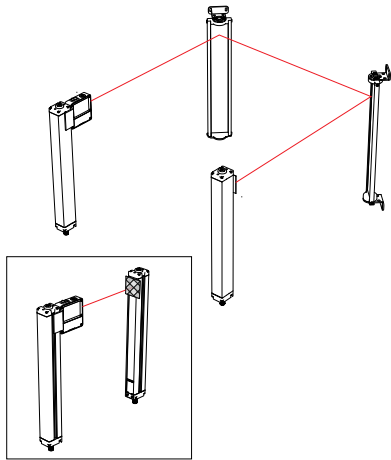

Figure 18. Optical alignment using the LAT-1-LP
**Note:** A LAT-1-LP Laser Alignment Tool is very helpful by providing a visible red dot along the optical axis. See Figure 18 (p. 38) and Banner Safety Applications Note SA104 (p/n 57477) for more information.